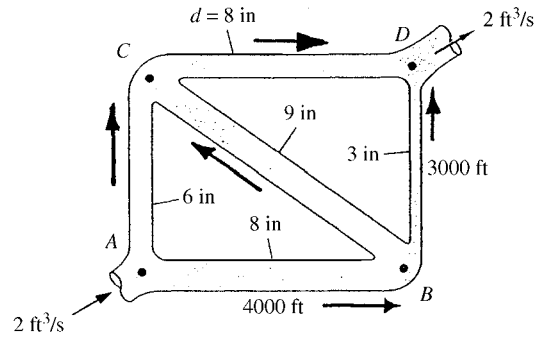

Fig. P6.127
**6.127** In the five-pipe horizontal network of Fig. P6.127, assume that all pipes have a friction factor  $f = 0.025$ . For the given inlet and exit flow rate of  $2 \text{ ft}^3/\text{s}$  of water at  $20^\circ\text{C}$ , determine the flow rate and direction in all pipes. If  $p_A = 120 \text{ lbf/in}^2$  gage, determine the pressures at points B, C, and D.
There are two triangular closed loops, and the total head loss must be zero for each. Using the flow directions assumed on the figure P6.127 above, we have